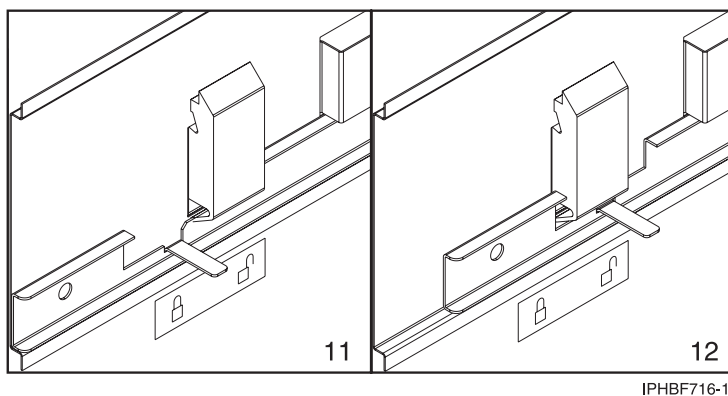

Figure 28. Placing the locked/unlocked sticker on the cover panel
- e. Place a locked/unlocked sticker on the inside of the cover panel so that when the slide bar is in the locked position, the tab is over the locked symbol (11), as shown in Figure 28, and over the unlocked symbol (12), when the slide bar is unlocked.